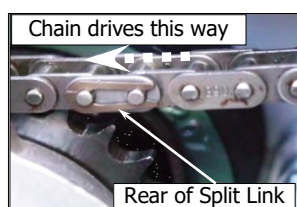

Figure 6.3.3d
- 6) Ensure that the joining link is re-fitted to the chain with the open end of link facing the opposite way to direction of drive. Refer figure 6.3.3d.